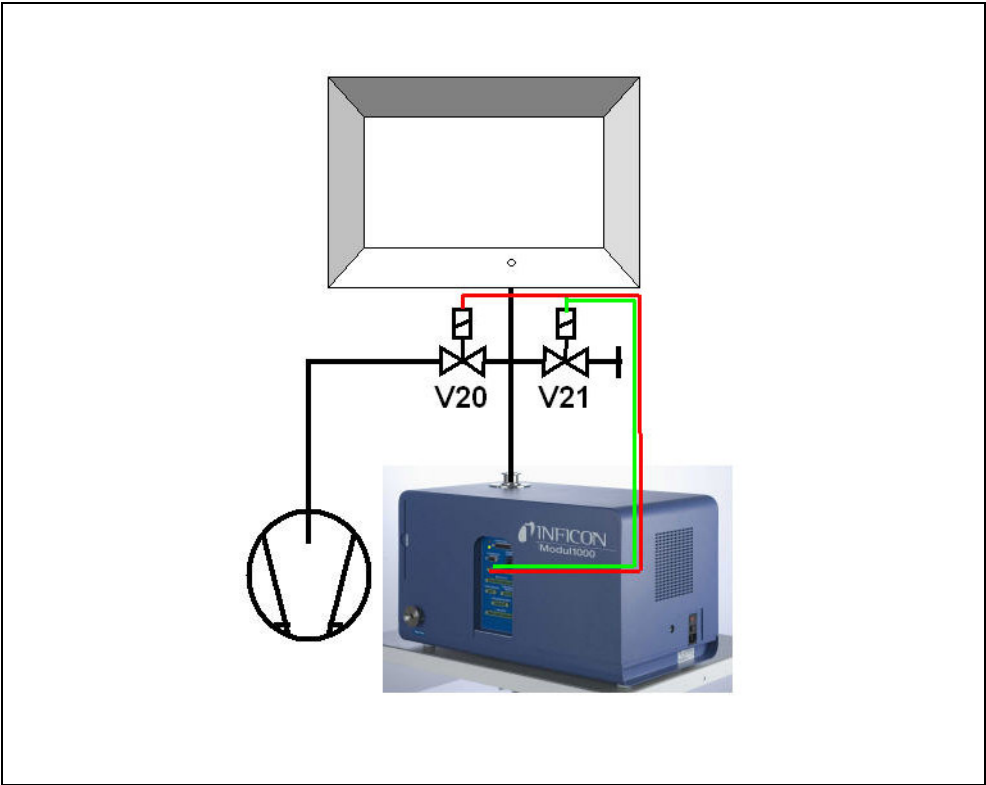

Fig. 5-1 Partial flow mode
The vacuum chamber is evacuated by the Modul1000, alternatively also in the partial flow mode (Fig. 5-1 Partial flow mode). The DUT located in the vacuum chamber is connected to the helium filling device through the chamber walls and is charged with helium in the evacuated state of the vacuum chamber.
- 2** After initiating the START signal, the Modul1000 starts evacuating the vacuum chamber. If a partial flow pump is connected to the Modul1000, the partial flow valve V20 (Fig. 5-1) is controlled and the test sequence is supported according to the partial flow setting by the partial flow pump.
- 11 Subsequently, the vacuum chamber is ventilated to atmospheric pressure by the Modul1000 (and the external Flood Valve V21 (Fig. 5-1) if connected).